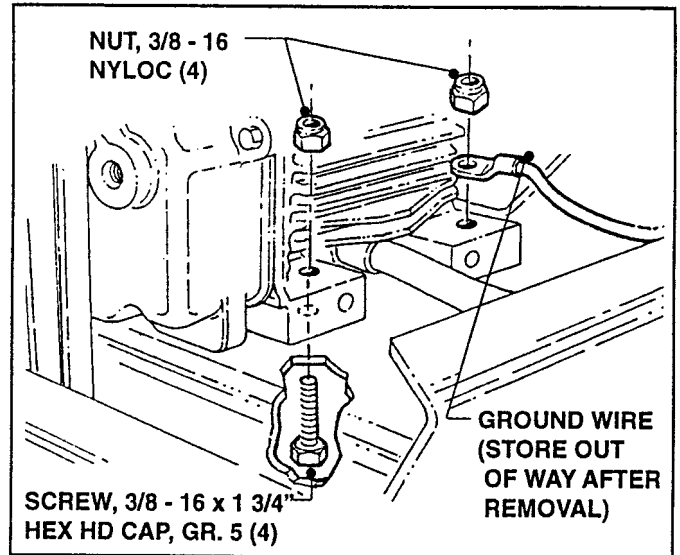

FIGURE 4.8
K. Remove the four (4) engine mounting nuts and Hex Hd. Capscrews. Store ground wire out of the way. See Figure 4.8.